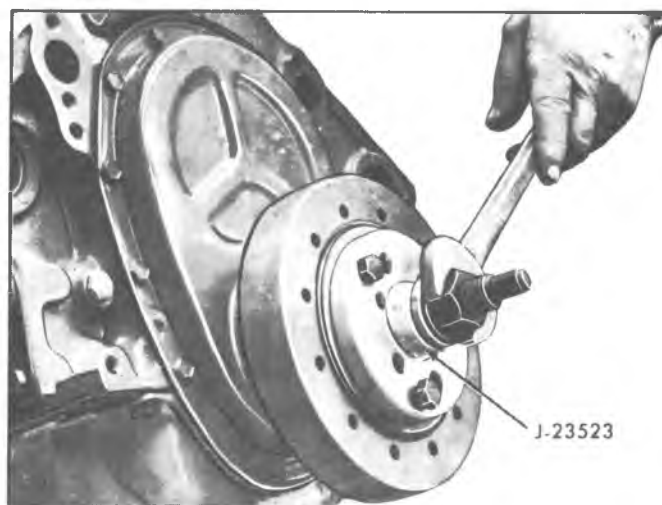

Fig. 12—Installing Torsional Damper (Pull on Type)
- c. Using Tool J-23523 pull damper onto crankshaft (fig. 12).